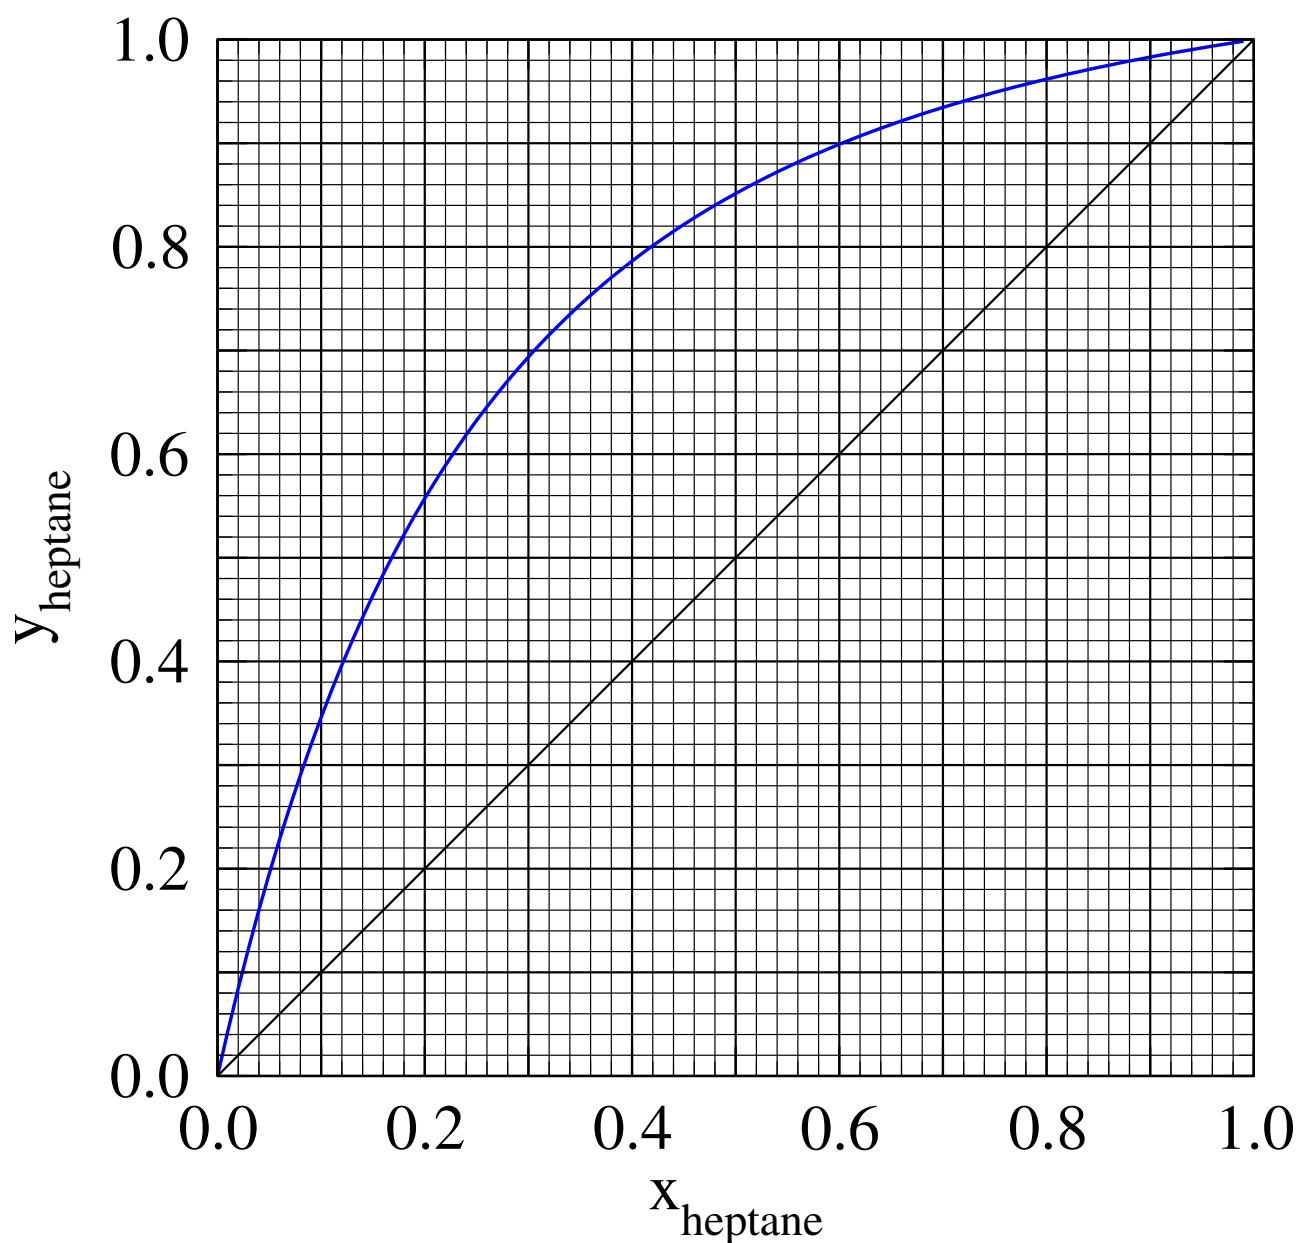

Figure 24: VLE data for the heptane-octane system at 1 atm. For use in Q. 8.37.
**Note:** VLE data is provided in Fig. 24.